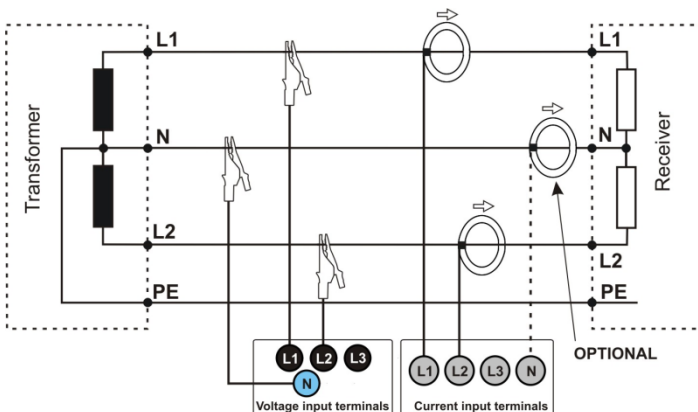

Fig. 6. Wiring diagram – 2-phase.
- 2-phase (split-phase) with split-winding of the transformer (Fig. 6),